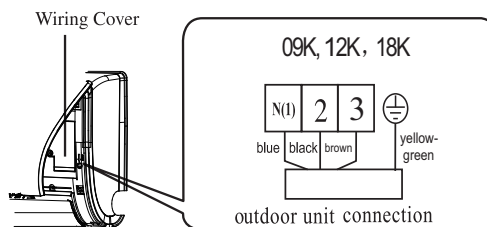

Fig.2
4. Connect and fix power connection cord to the terminal board as shown in Fig 2.